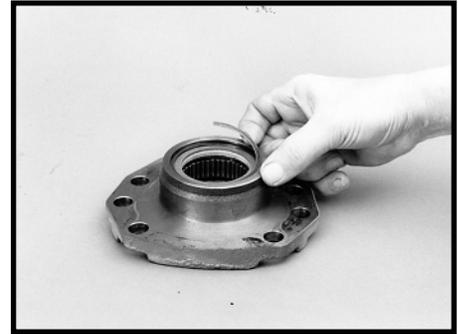

Figure 141
- 35. Assemble retaining ring (51) into the ring groove in the side cover. SEE FIGURE 141